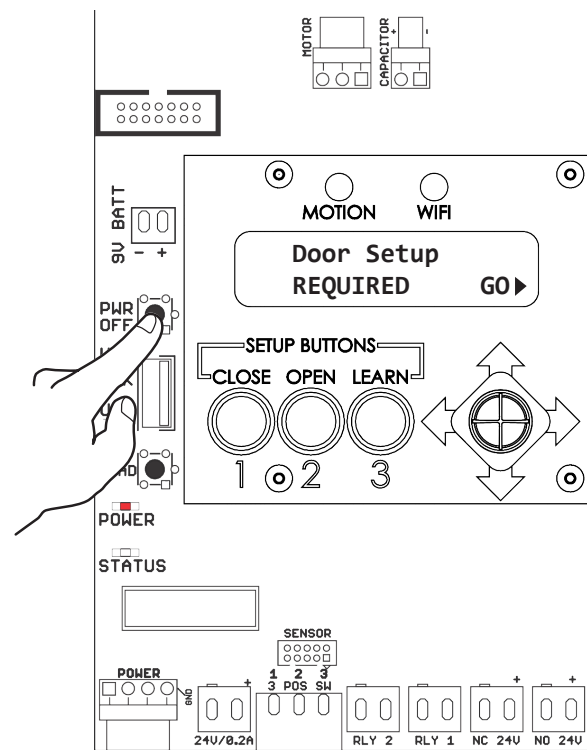

Figure 2
3. Use supplied green connectors to wire in any devices needing outputs, such as electric strikes, mag locks, exit devices, door open position output, etc. (Figure 2) See Input Connections and Output Connections on page 8 for information.
4. Turn on building power feed. Power will normally be "On" for operator. Power can be turned on or off by pressing power button. (Figure 2)
**NOTE:** On control board there should be one solid red LED for POWER and one white LED that flashes every 1.5 - 2 seconds for STATUS. CLOSE button of Setup Buttons should be flashing orange continuously. (Figure 2)